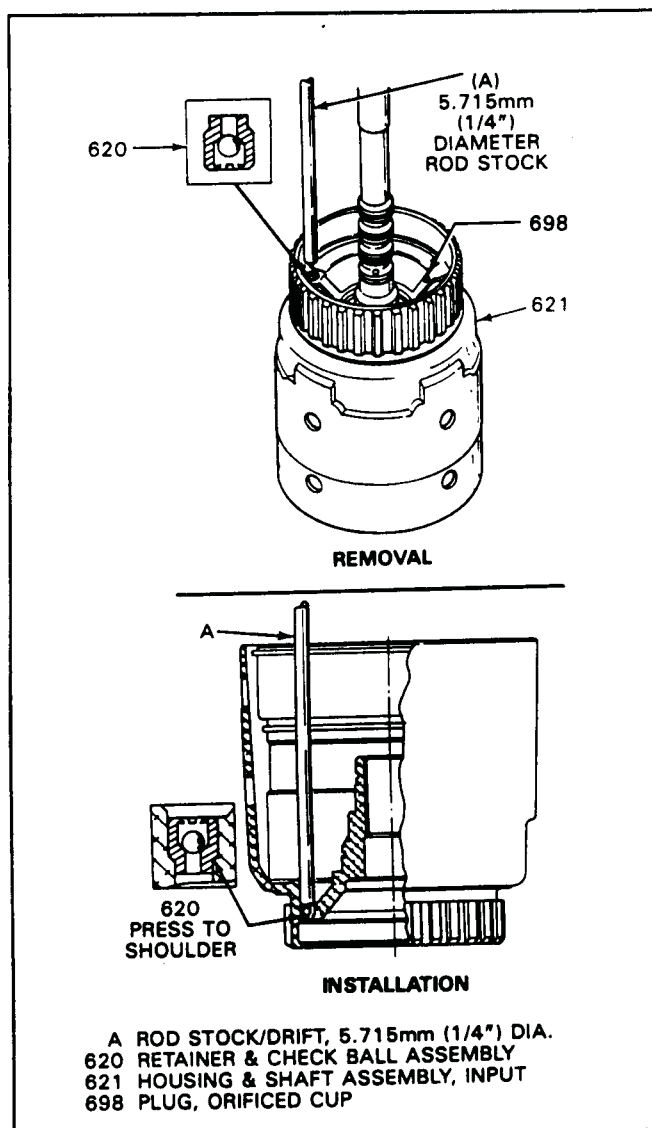

Figure 114
2. If replacement is necessary, use a 1/4\" drill punch and hammer to remove and replace the capsule assembly, as shown in Figure 114.
3. OEM part number for the input housing ball capsule is 8654438 (Figure 114).